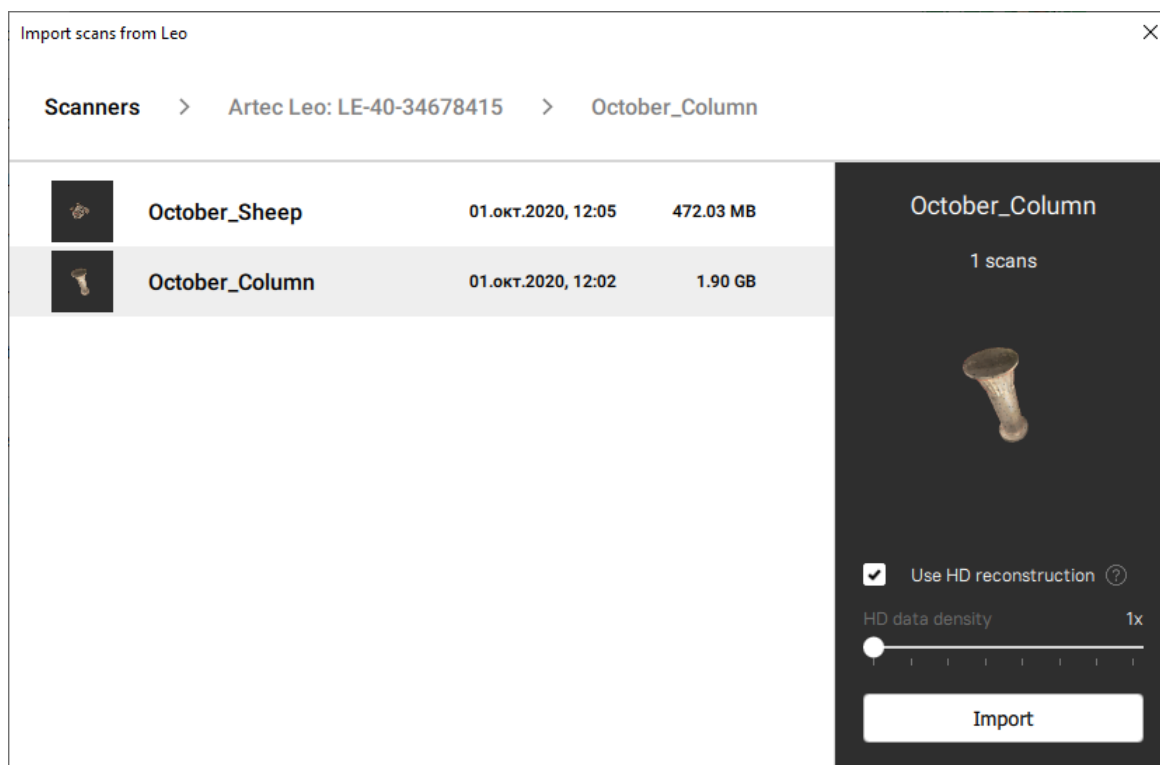

Figure 71: Dialog for selecting Leo projects to import.
5. Then using either LMB or ↑ and ↓ select the project that you want to load (Figure 71)